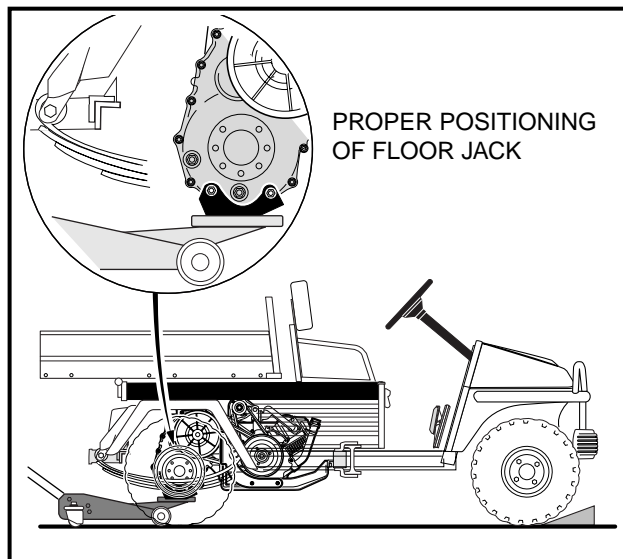
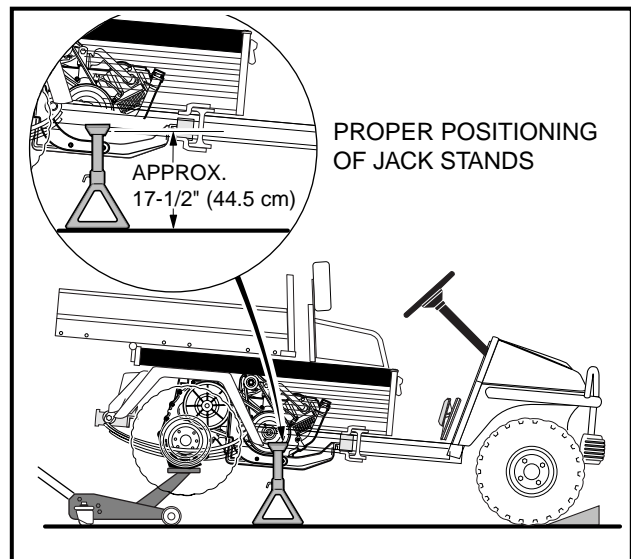

Figure 9-2 Floor Jack Placement
Figure 9-3 Jack Stand Placement
2. Place chocks at the front wheels and lift rear of vehicle with a chain hoist or floor jack (**Figure 9-2, Page 9-3**). Position jack stands under the side stringer, just forward of each rear wheel (**Figure 9-3, Page 9-3**). Lower the vehicle to let the jack stands support the vehicle. See **WARNING** on page 9-1.